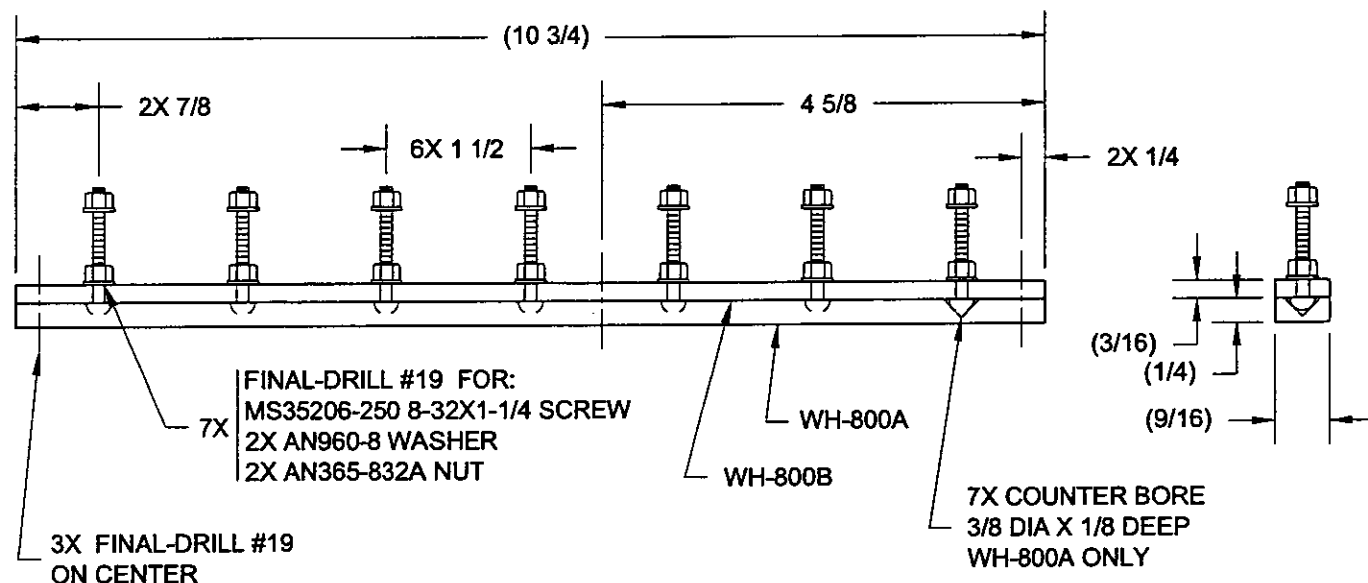

FIGURE 1: FABRICATING TERMINAL BLOCK
Step 1: Make WH-800A from 1/4X9/16X10 3/4 UHMW plastic and WH-800B from 3/16X9/16X10 3/4 UHMW plastic provided in the kit and shown in Figure 1. From now on the assembly will be referred to as the terminal block.